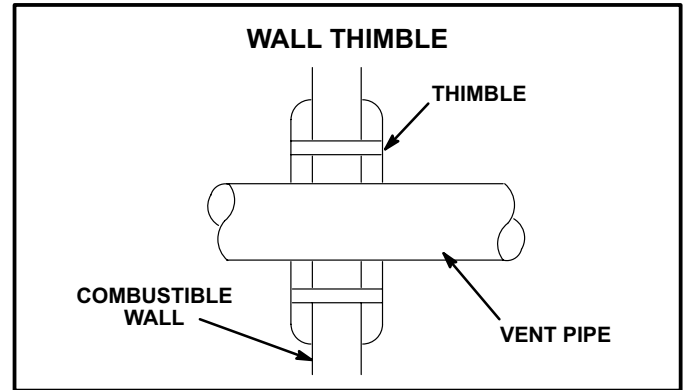

FIGURE 12
- 8 - The vent may pass through a wall where provisions have been made for a thimble as specified in the Standards of the National Board of Fire Underwriters. See figure 12.